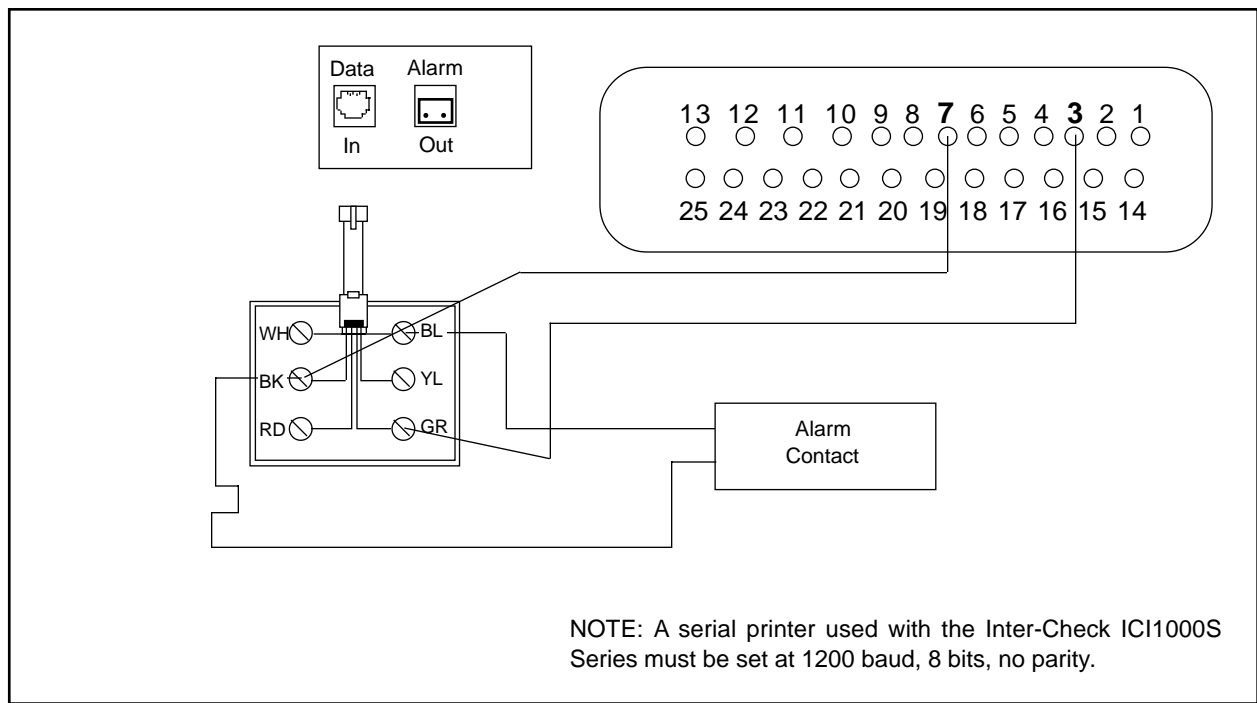

Figure 4. Printer Output and Alarm Input Wiring
6. Use the keypad on top of, or inside, the ICI1000S chassis to set the standard PIM defaults. Press ENT, 6, 8 and then ESC to return to monitoring mode. This step is required for all ICI1000S systems (refer to Figure 4).
9. If using the auxiliary print feature, and/or alarm inputs, follow the wiring diagram in Figure 4 for proper installation.